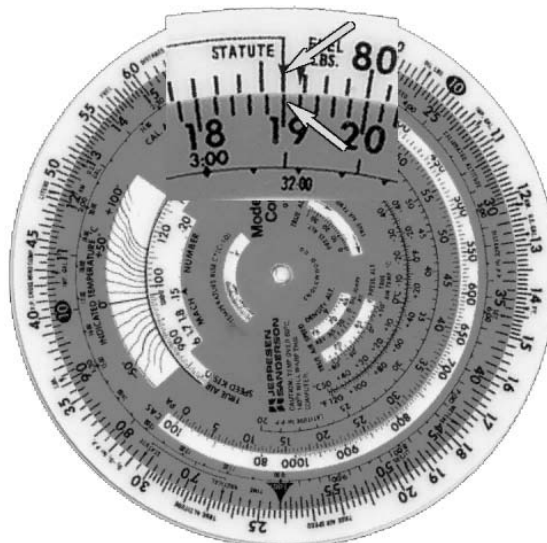

Figure 4.3-23 Speed 4
3. Look on the TIME scale over 19 minutes and read the distance directly above. (Figure 4.3-23)